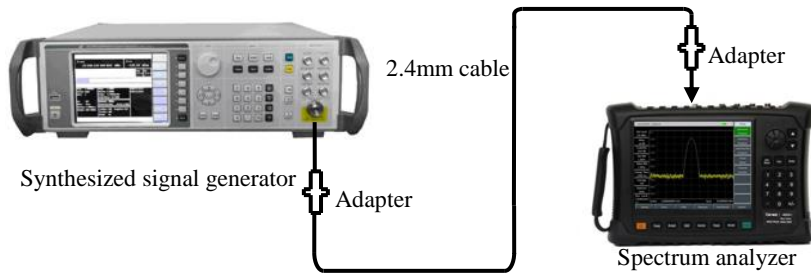

Fig. 12-2 Block Diagram of Test of Frequency Readout Accuracy
- 1) As shown in Fig. 12-2, connect the test instrument, and then connect the RF output end of the signal generator to RF input end of the spectrum analyzer.
- 5) Calculate the frequency readout error Δf by Formula (1):